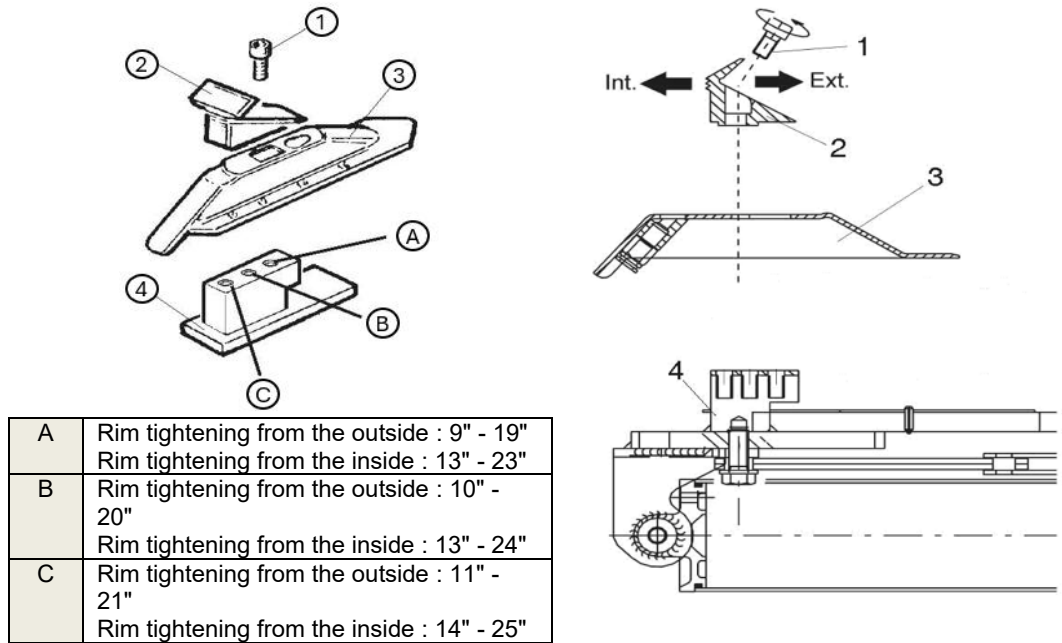

Fig. 3-4
- To remove a larger or smaller rim, adjust the position of the four jaws as shown in Figure 3-4.